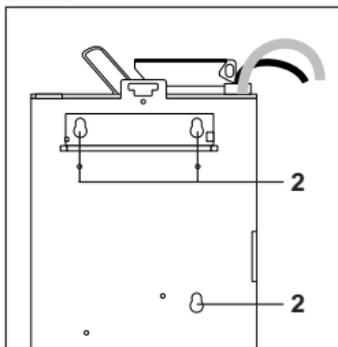

Fig. 4b: Hanging up the G-46.F4000
- 2 Hang the changer in the vending machine using the three mounting holes **2** on the back wall (see Fig. 4b).